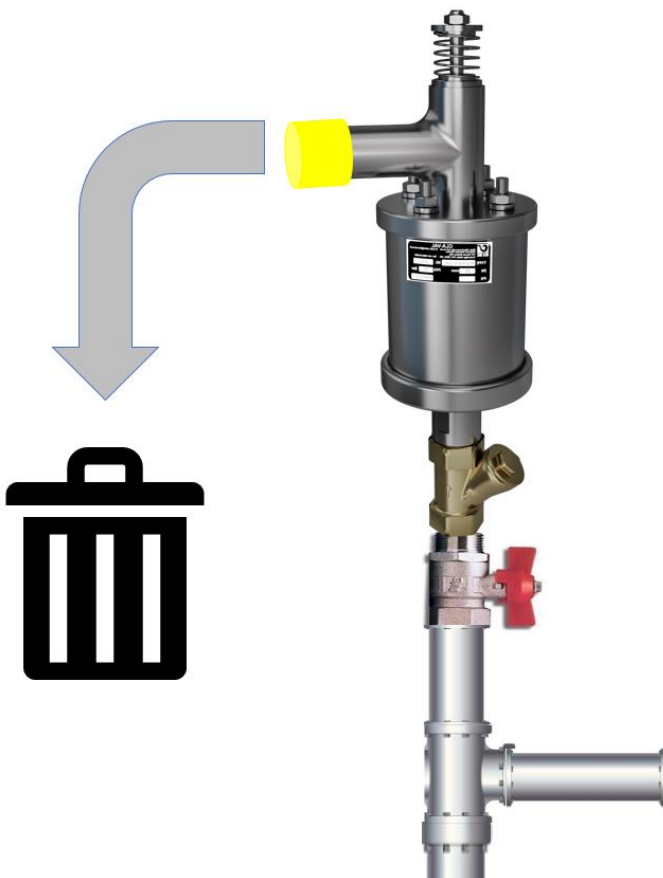

Figure 2
10. Remove dust cap (Refer to Figure 2)
- e) The dust cap has been removed as indicated in Figure 2